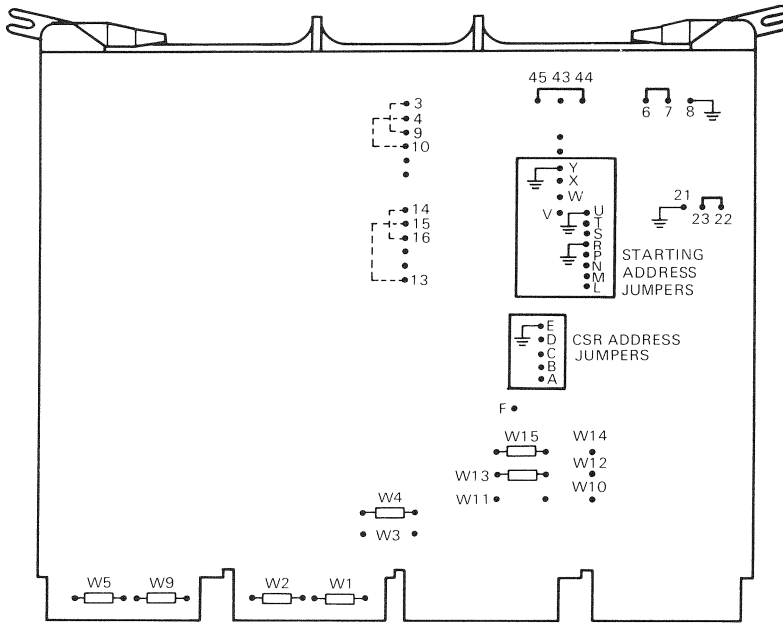

Figure 2-4 MSV11-P Module Layout
The MSV11-P memory module is configured by means of jumpers and wire-wrap pins. The -PK and -PL models have the same factory configuration. Figure 2-4 shows the location of jumpers and wire-wrap pins and Table 2-13 describes their function.
2.6.1.1 CSR Address – Figure 2-4 shows the CSR address jumpers on the MSV11-P. Table 2-14 lists the CSR address and corresponding jumper configurations for each memory module added to the system. The table is applicable to both the -PK and -PL models.